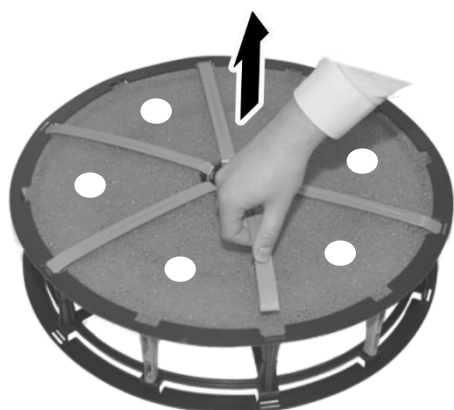

Fig. 23: Loosen the filter holder and remove the fastening pins.
4. → Detach the filter holder from the filter drum and fold them up. Remove the white fixing pins and set them aside. (Fig. 23).